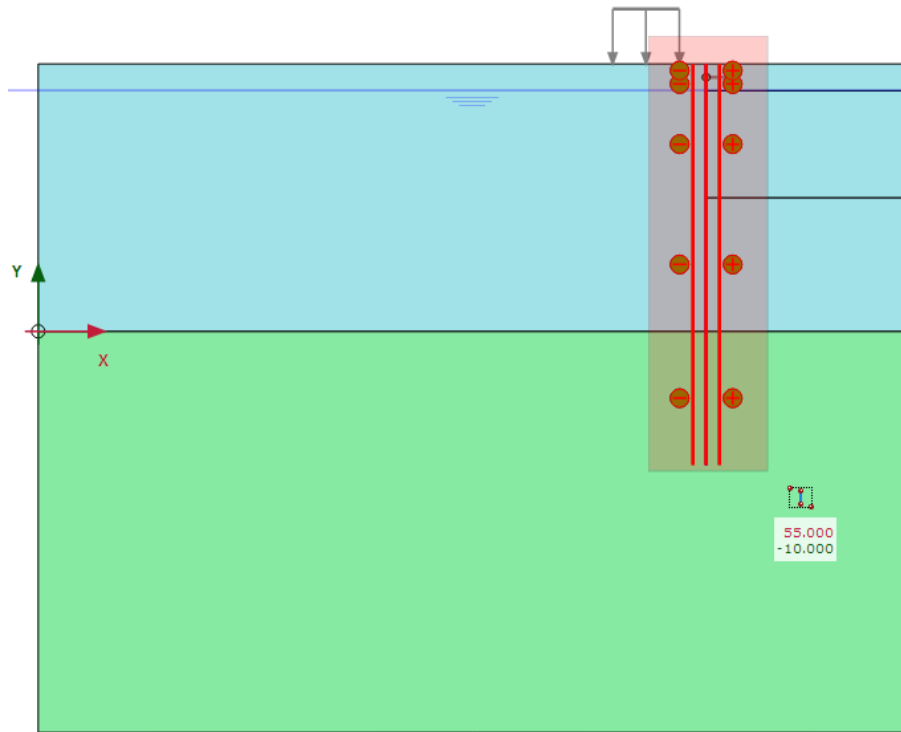

Figure 49: Selected multiple plate elements in the model
3. In the drawing area define a rectangle that includes all the plate elements as shown in Figure 49 (on page 65).